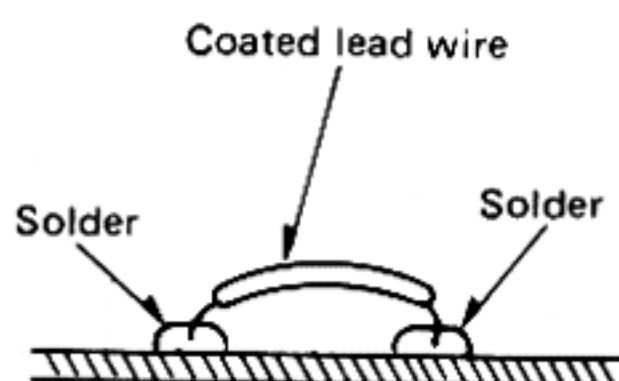

Fig. 21
1. If the chip jumper is removed, connect a coated lead wire to the part. (See Fig. 21).